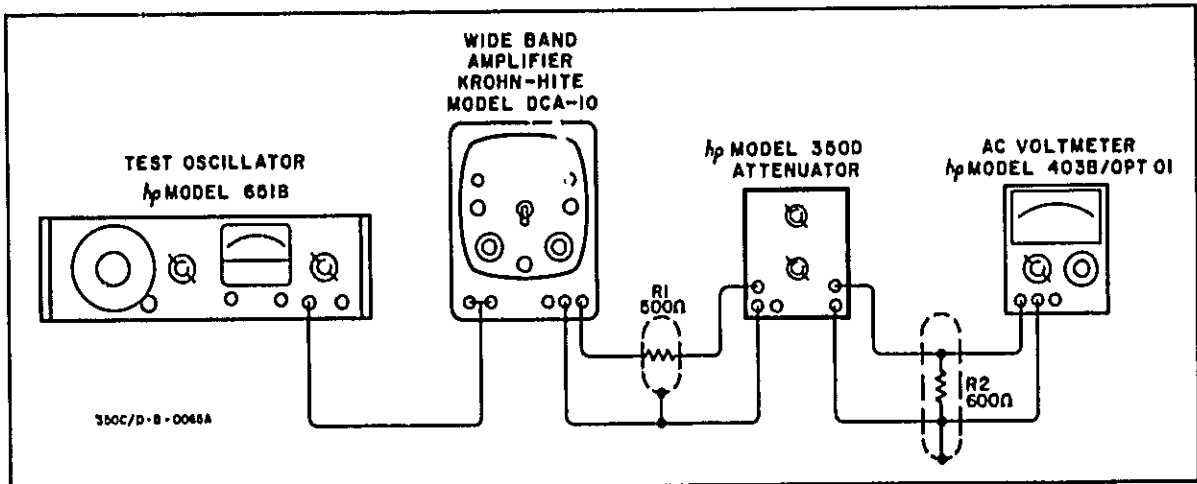

Figure 5-6. AC Performance Test Setup
5-14. The ac performance test setup is illustrated in Figure 5-6. An Oscillator (hp-Model 651B), an Amplifier (Krohn-Hite DCA-10), and a battery operated AC Voltmeter (hp-Model 403B) are required for this test. In addition, (one 500 ohm and one 600 ohm, 10 watt, LPI-10  $\pm$ 2% resistors for the 350D). These resistors must be enclosed in a shield as shown in Figure 5-6. The range-to-range accuracy of the AC Voltmeter from +40 dB to -60 dB must be known to within 0.1 dB at 100 KHz and 1 MHz. Any errors should be
- a. Make test setup illustrated in Figure 5-6.